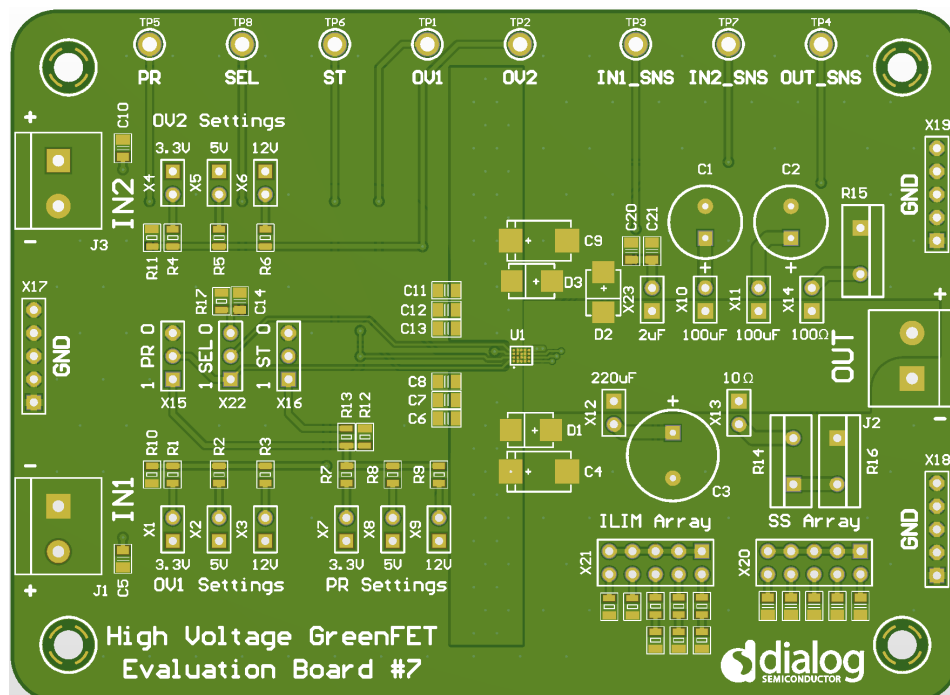

Figure 28. SLG59H1401C Evaluation Board
1. Since the IN[1,2] and OUT pins dissipate most of the heat generated during high-load current operation, it is highly recommended to make power traces as short, direct, and wide as possible. A good practice is to make power traces with an absolute minimum widths of 15 mils (0.381 mm) per Ampere. A representative layout, shown in Figure 28, illustrates proper techniques for heat to transfer as efficiently as possible out of the device;
A High Voltage GreenFET Evaluation Board for SLG59H1401C is designed according to the statements above and is illustrated on Figure 28. Please note that evaluation board has IN[1,2]_Sense and OUT_Sense pads. They cannot carry high currents and dedicated only for $R_{DS_{ON[1,2]}}$ evaluation.